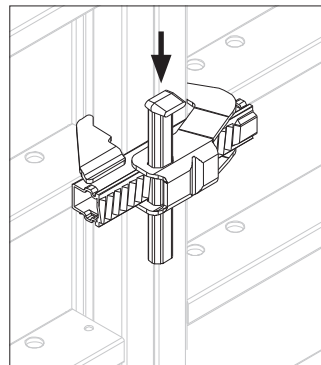

Fig. A4.02a
5. Secure wedge. (Fig. A4.02a)